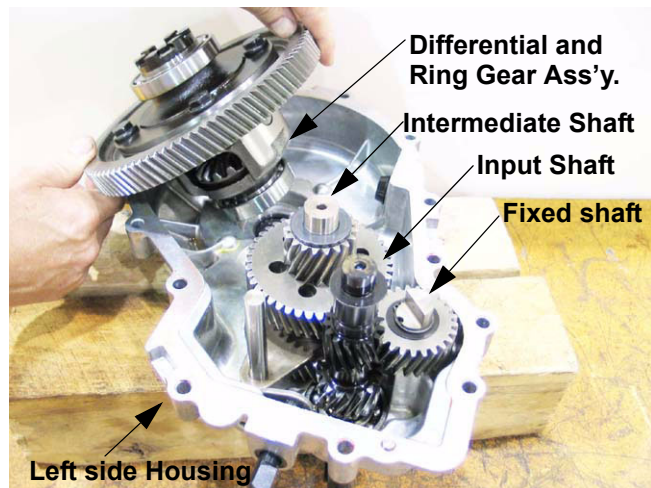

Figure 12.1
- 12.1. Carefully lift the differential and ring gear assembly out of the left side housing. Set it aside in a clean, safe place. See Figure 12.1.